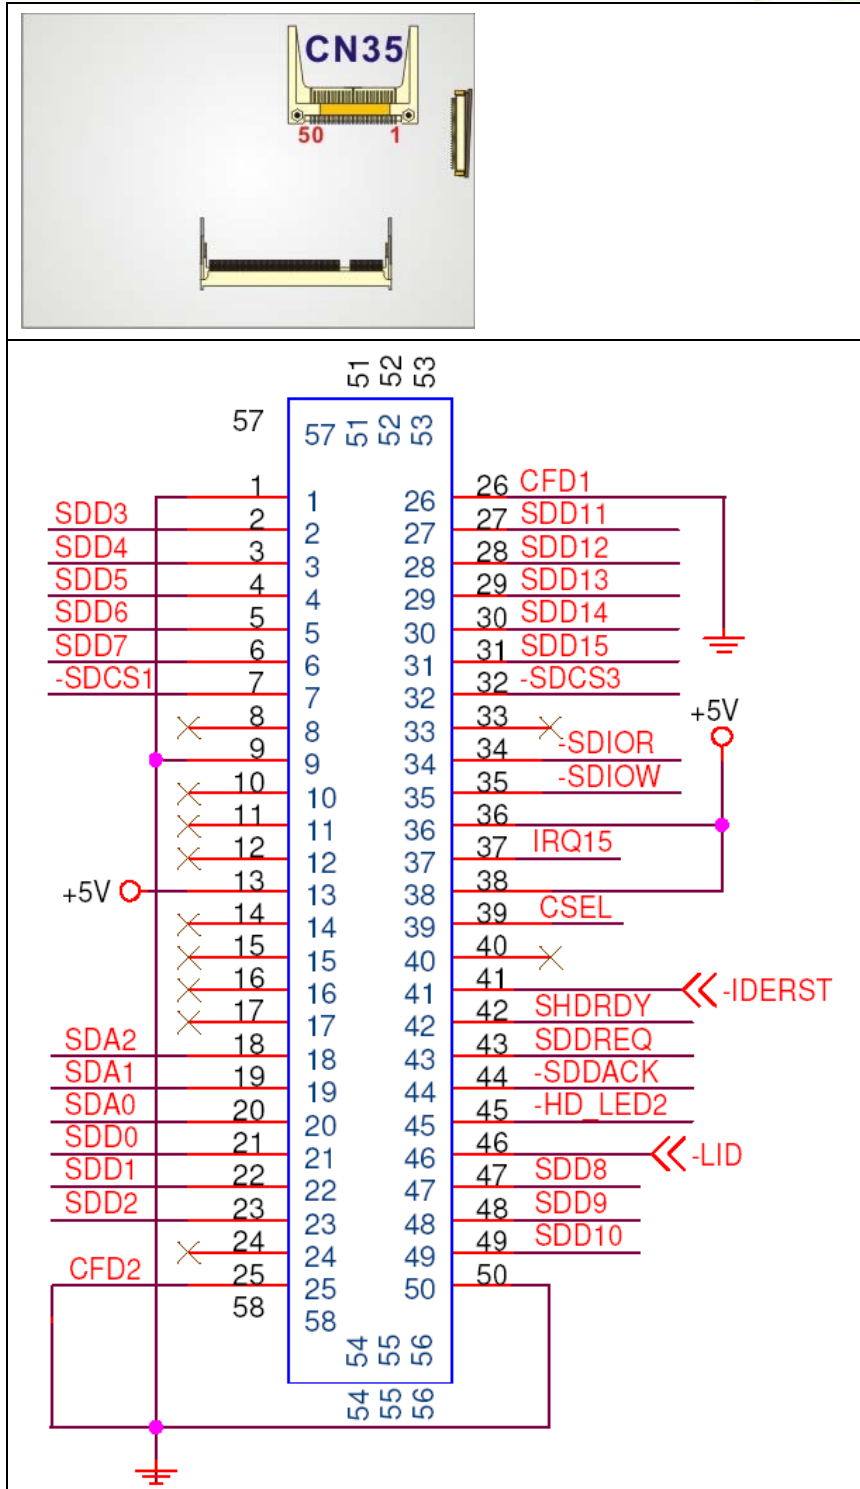

Figure 4-8: CN35 Connector Location
- CN Location:** See **Figure 4-8**